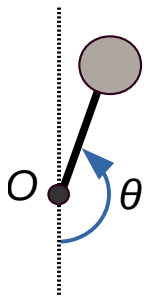

Figure 3: The angle θ is equal to 0 when arm is in the bottom position and is equal to π in the upright position.
- a) Implement the position discretization. The input may be outside the interval $[0, 2\pi]$ rad, so be sure to wrap the state around (hint: use the `mod` function). The resulting state must be in the range $[1, \text{par.pos_states}]$. This means that π rad (the “up” direction) will be in the middle of the range. See the pendulum model shown in Figure 3.